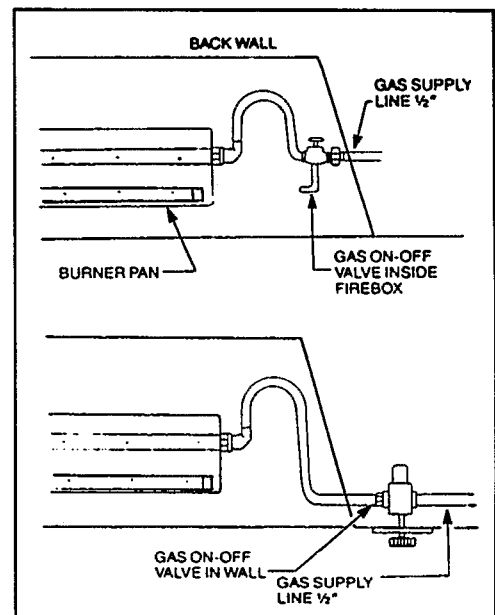

Figure 3B - Gas line installation
- F. **Masonry fireplaces:** A 1/2" gas supply line must be provided to the firebox. Most installations require drilling an access hole through the masonry wall. The supply line should be secured and sealed by mortar within the access hole. The supply line should also have an on-off valve either in the wall or inside the fireplace. (See Figure 3B.)